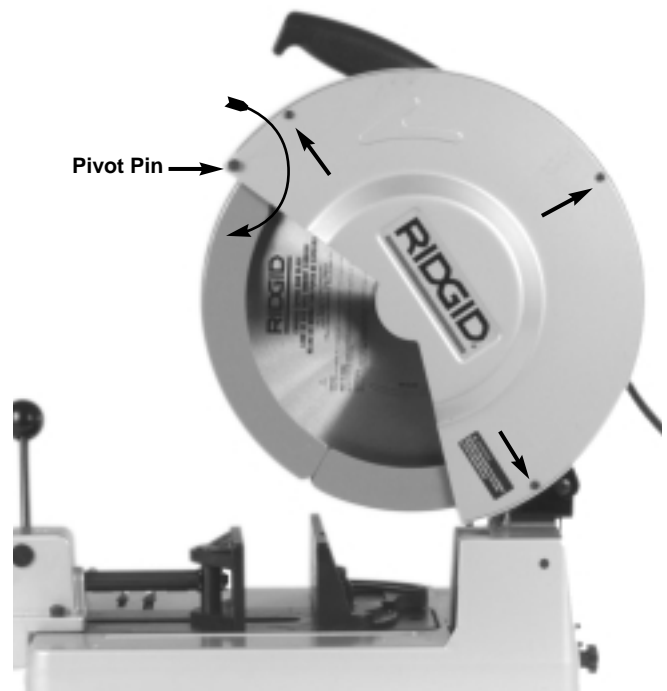

Figure 7 – Removing Cover
2. Loosen the three (3) screws on the safety cover then rotate it clockwise around pivot pin to expose the arbor shaft (Figure 7).